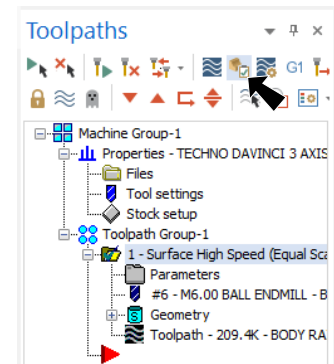

Fig. 21
Step 2. In the Toolpaths Manager **Verify** , **Fig. 21**.